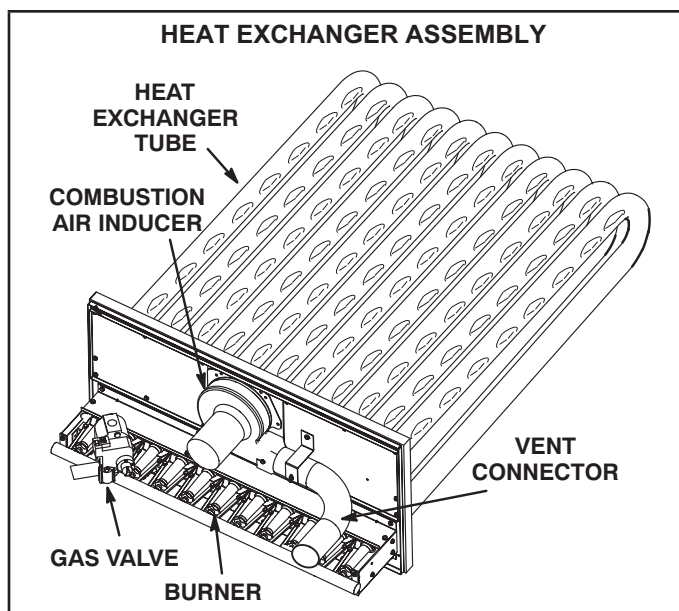

FIGURE 28
- 3 - Remove and retain screws securing combustion air inducer to flue box. Remove and retain two screws from bracket supporting vent connector. See figure 28.